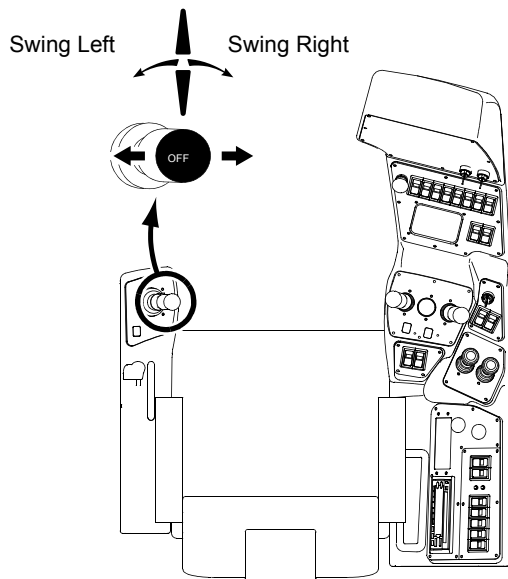

FIGURE 3-19
See Figure 3-19 for swing operation.
3. See Figure 3-19. Push swing handle to LEFT from off to SWING LEFT or pull handle to RIGHT from off to SWING RIGHT.